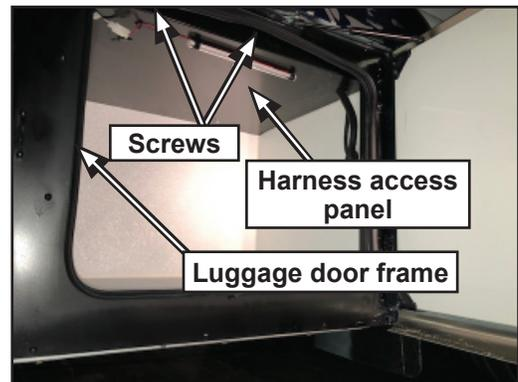

Figure 2
6. With the luggage door open, locate and remove the (5) harness access panel screws in the void along the leading edge, directly behind the luggage door seal frame. See Figures 2 and 3. Depending on the location of the screws, it may be necessary to remove the luggage door bulb seal in order to access the screw heads.